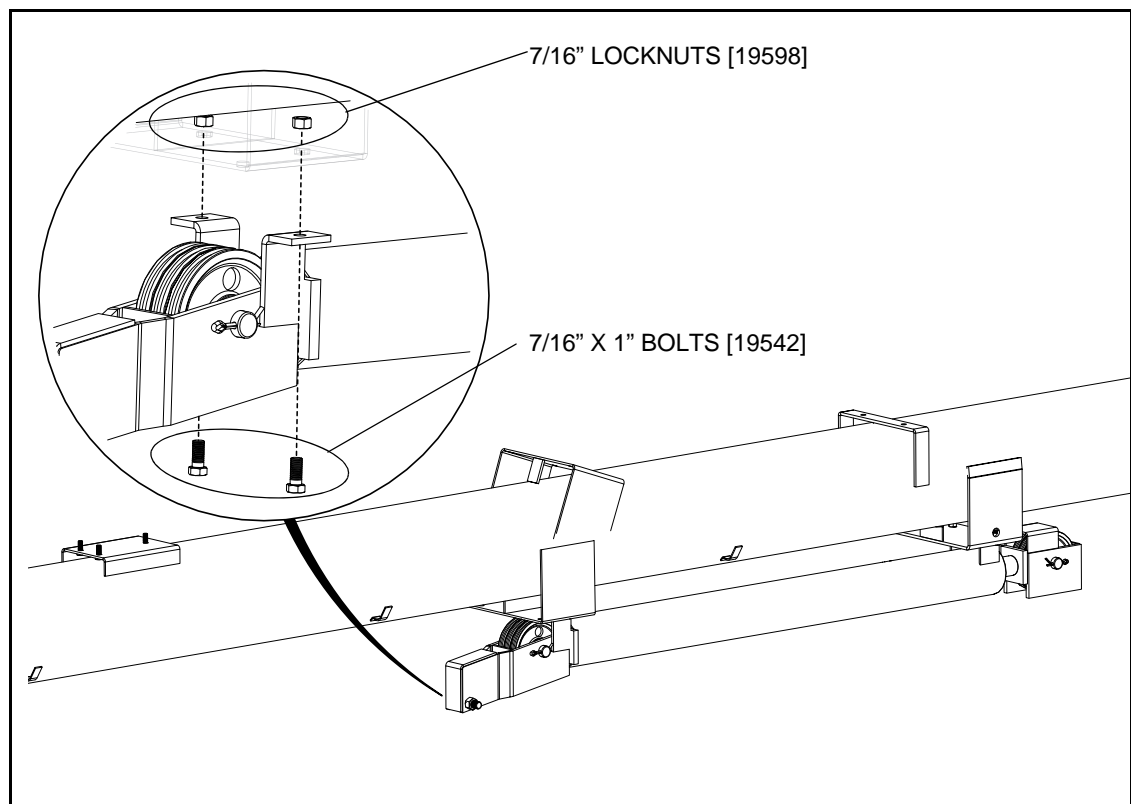

Figure 3.5 Installing Lift Cylinder (MKX100-53/63/73)
3. Position the lift cylinder on the welded brackets on the lower end of auger tube (see Figure 3.5 for correct position), and secure with four 7/16" x 1" bolts and locknuts. **Tighten securely.**